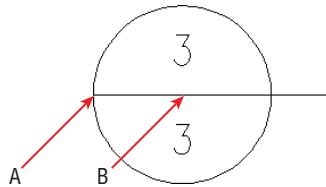

FIGURE 10.6 Mirroring text to create a duplicate text object
2. Click the Mirror tool on the Modify panel, select the text object (3), and press Enter. Click the Endpoint at point A and the Center point at B, as shown in Figure 10.6, to define the mirror. The command line reads: